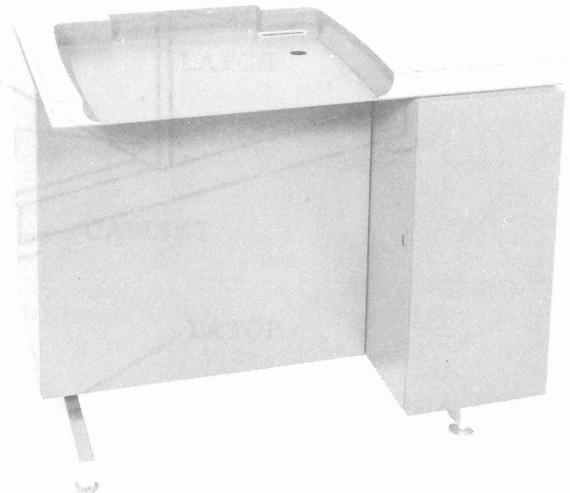

Figure 1 - Double Compartment Table
1.04 References to left or right, front or rear, top or bottom, etc, apply to the table in its normal position as viewed by the operator in front of the table (Figure 1).